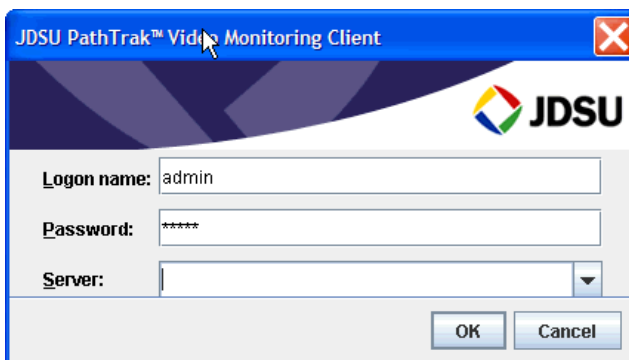

Figure 18 JDSU PathTrak™ Video Monitoring Client Logon dialog box
- 2 On the desk top, double click on the **PathTrakVM Client** icon. The JDSU PathTrak™ Video Monitoring Client Logon dialog box (Figure 18) is displayed.